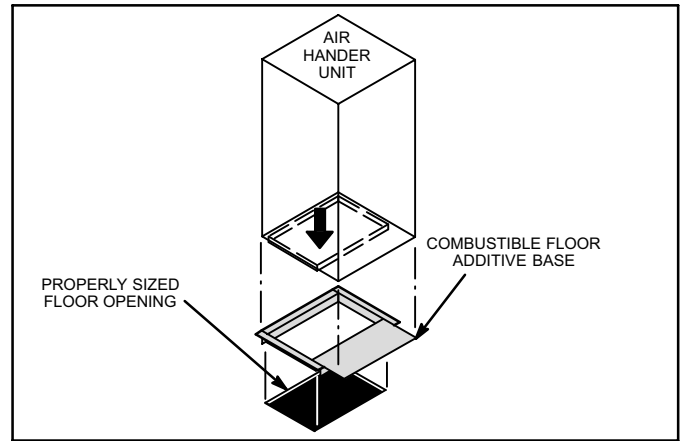

Figure 9. Combustible Flooring Additive Base
8. For downflow installation on combustible flooring, an additive base must be used as illustrated in figure 9 on page 7.